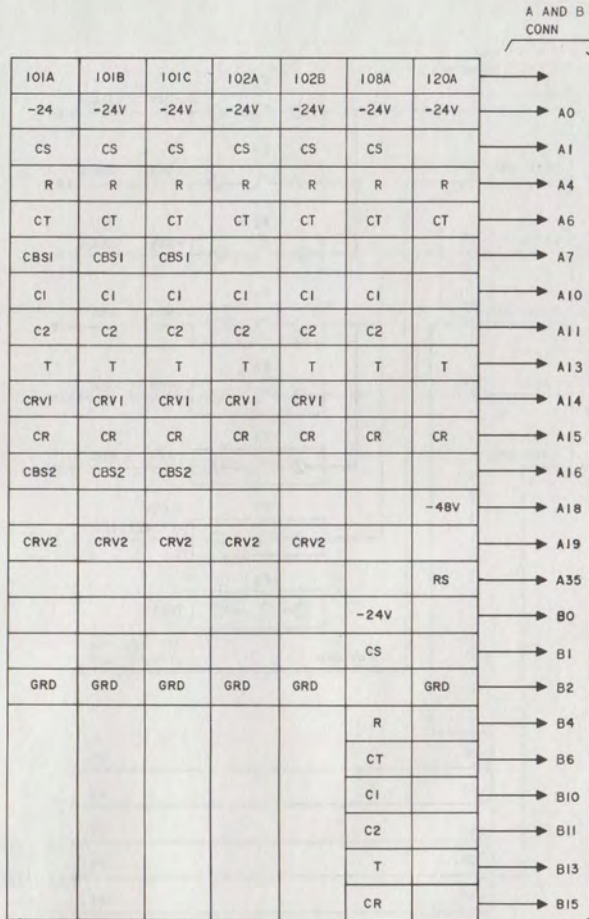

Fig. 4—Lead Designations For Interconnecting Units
the 604B or 604C panel. Each 8-inch IU plugs into a vertical arrangement of an A connector (914A, 40 pin) over a B connector (913A, 20 pin). The 4-inch IUs will plug into either connector. A P40V590 guide assembly must be mounted in the center of each vertical position to support the 4-inch IUs. Fig. 3 shows the connector and trunk arrangement in the 615A panel. Fig. 4 shows the lead designations and pin numbers for these IUs, and Table A shows the connectors in which they are used.
**4.01** Refer to Fig. 4 for connections to IUs.